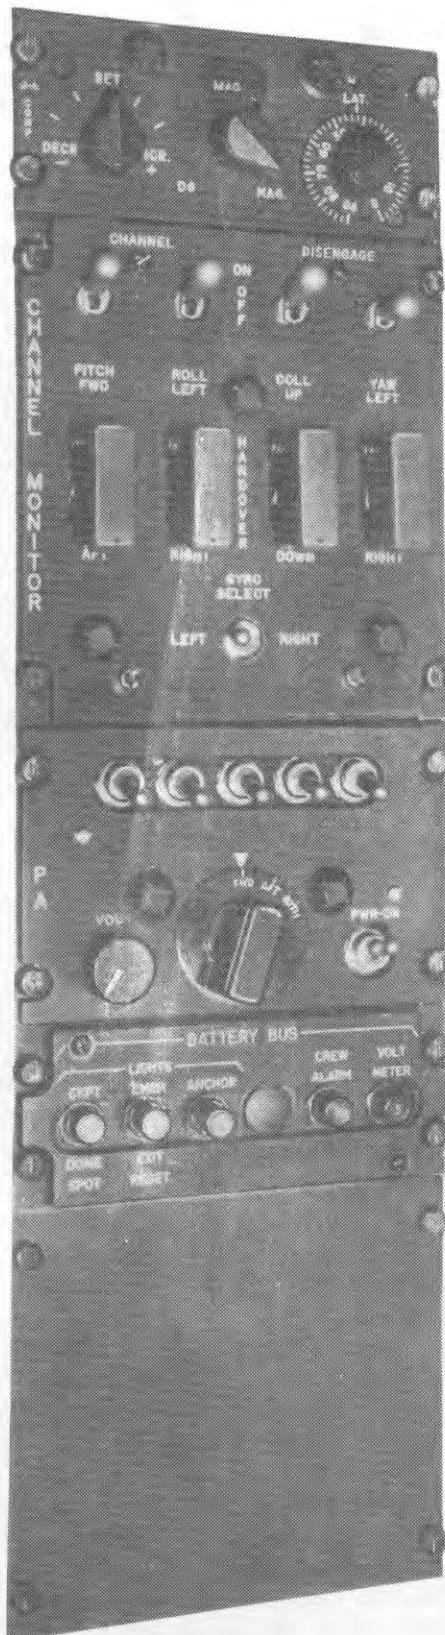

Figure 1-44. Pilot's Console (Typical)
The channel monitor control panel, marked CHANNEL MONITOR, is located on the pilot's console (figure 1-44) to the right of the pilot's seat. The controls consist of four toggle switches across the top of the panel, marked PITCH, ROLL, COLL, and YAW, under the general heading CHANNEL DISENGAGE, with marked position ON and OFF. These toggle switches permit individual disengagement of the pitch, roll, collective, and yaw channels of AFCS. They are usually left in the ON position, except when the pilot wishes to disengage a malfunctioning channel. Directly below the four
The J-4 compass control panel, located on the pilot's console (figure 1-44), contains all the controls for operation of the compass system. The function selector switch has marked positions DG and MAG. When the function selector switch is placed in the DG position, the compass system will function as a free directional gyro, with either north or south latitude corrections for the drift effect of the rotation of the earth. When the switch is placed in the MAG position, the gyro is slaved to the earth's magnetic field. Directional reference signals are obtained from the remote compass flux valve. In this mode of operation, the gyro is used as the stabilizing element of the compass system. The rotating azimuth card on the BDHIs will indicate stabilized magnetic headings. The annunciator meter, marked MAG on the compass control panel, provides indication of the synchronization of the compass system. In magnetic compass (MAG) operation, the synchronization circuits automatically synchronize the gyro to the remote compass flux valve. Automatic synchronization is established in the first 15 seconds of MAG operation and is maintained during operation of the compass system in this mode. In the directional gyro (DG) mode of operation, synchronization is not established or maintained automatically. Manual synchronization is accomplished by operating the SET synchronizer switch on the compass control panel. When the SET synchronizer switch, with marked positions DECR (-) and INCR (+), is displaced to the right or left, a synchronized signal is provided through the system at the rate and direction required to set the compass card of the pilot's and copilot's BDHIs, as desired. Synchronization of the system is indicated on the annunciator meter when the pointer is in line with the white arrow on the control panel. Reference heading data for the AFCS system is not affected by the synchronization cycles. The BDHIs compass cards can also be repositioned by use of the SET synchronizer switch when the compass is in magnetic compass (MAG) operation. The switch marked LAT is used to set in the proper magnitude of latitude correction during the DG mode of operation. Maximum drift of the directional gyro occurs when the gyro spin axis is at right angles to the earth's spin axis (north and south poles), and zero drift occurs